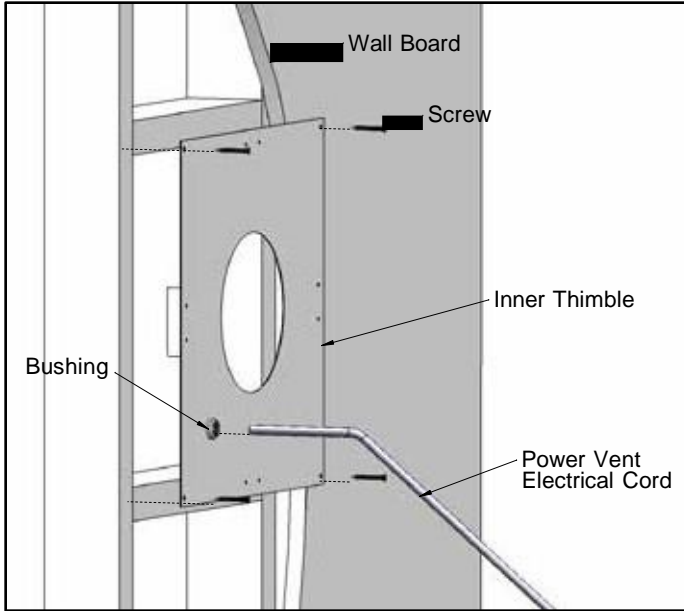

**Figure 4 Typical overall dimensions with minimum horizontal vent installed.**
- 50 feet (15.25m) of cable is supplied with this kit, if more venting is required, use 706-033 - 100 feet (30.5m) PVK CABLE and connect it as shown on the wiring diagram in Figure 4.
3. Using the dimensions in Figures 4 & 5, frame an opening for the thimble of 14 1/2" x 14 1/2" (368mm x 368mm).